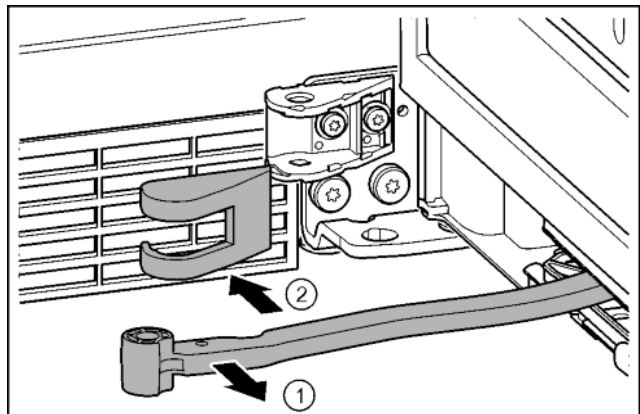

Fig. 17
- Turn the hinge in the direction of the door. Fig. 17 (1)
- Remove cover. *Fig. 17 (2)*